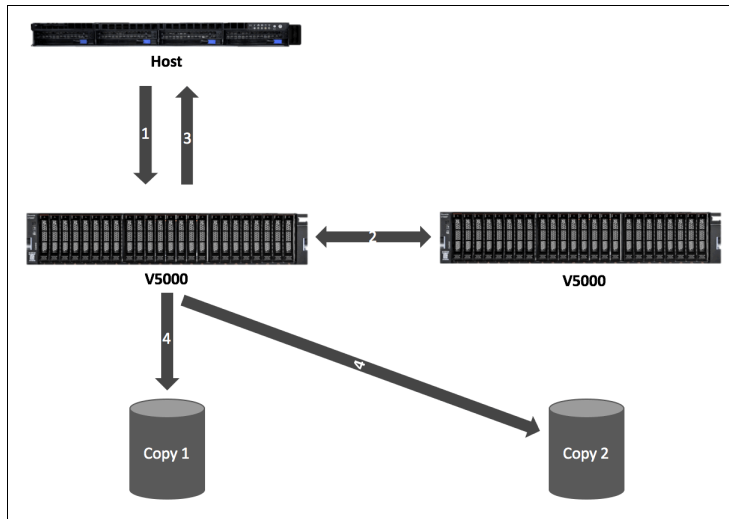

Figure 6-5 Data flow for write I/O processing in a mirrored volume
For write I/O operations to a mirrored volume, the IBM Spectrum Virtualize preferred node definition, with the multipathing driver on the host, is used to determine the preferred path. The host routes the I/Os through the preferred path, and the corresponding node is responsible for further destaging written data from cache to both volume copies. Figure 6-5 shows the data flow for write I/O processing when volume mirroring is used.
As shown in Figure 6-5, all the writes are sent by the host to the preferred node for each volume (1). Then, the data is mirrored to the cache of the partner node in the I/O Group (2), and acknowledgment of the write operation is sent to the host (3). The preferred node then destages the written data to the two volume copies (4).